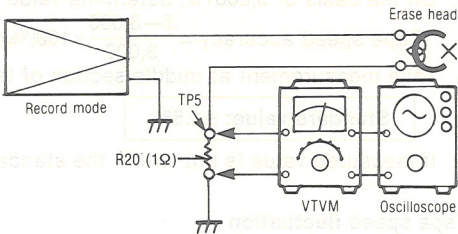

Fig. 12
⑫ Erase current
1. Test equipment connection is shown in fig. 12.